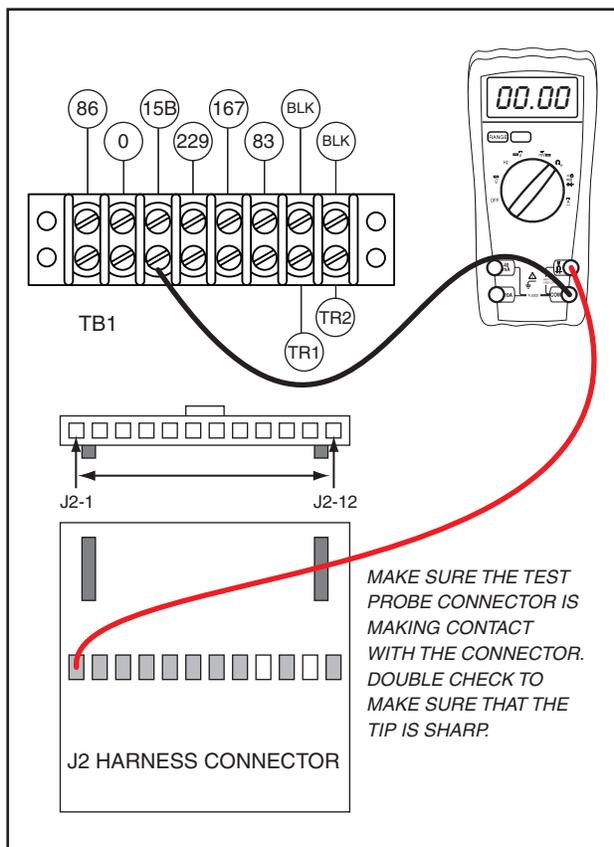

Figure 6-6. – Testing J2-1
9. Disconnect the J2 connector from the printed circuit board. Connect one meter test lead to Pin Location J2-1 (Wire 15B. Connect the other meter test lead to Wire 15B at Terminal Block 1 (TB1). See Figure 6-6. Continuity should be measured.